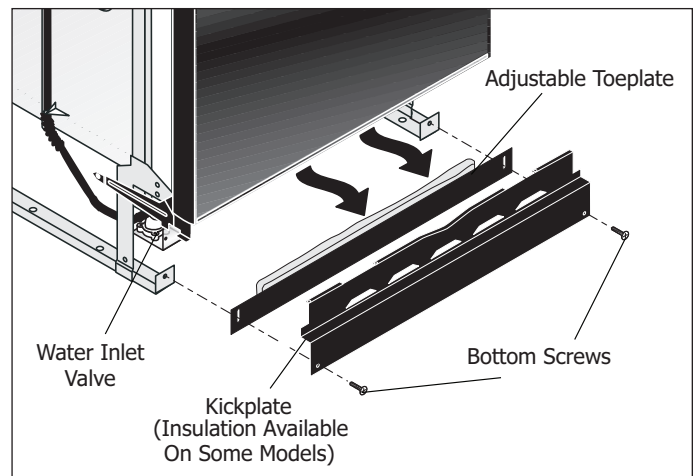

Figure 2-2.
1. Remove two (2) screws at front of the kickplate assembly using a #2 Phillips screw driver.
2. Tilt and pull forward to remove. (See Figure 2-2).